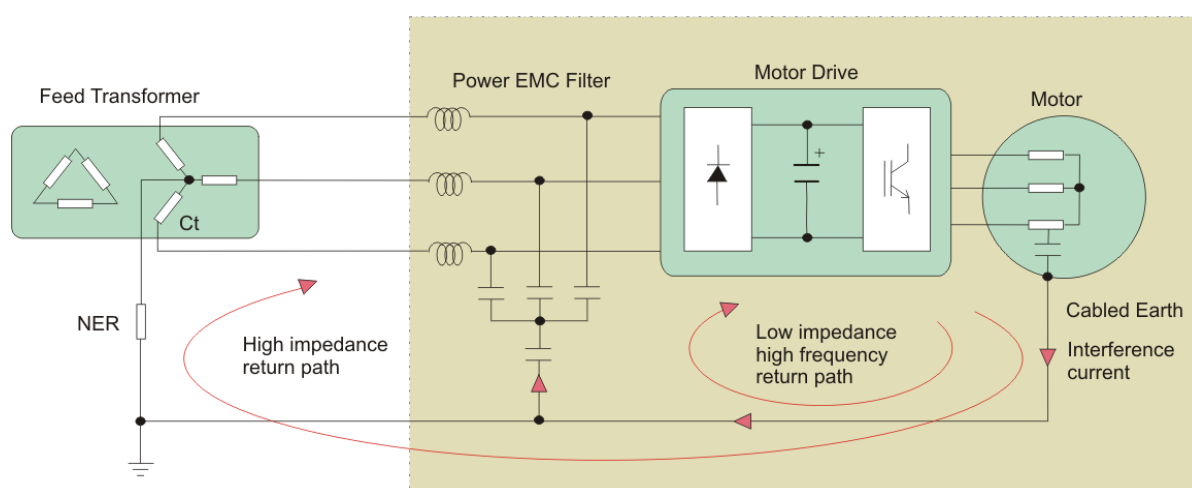

Figure 2: Alternative Earth Current Paths
- 1) VSDs introduce a new and complex voltage source into the power system. This may mean that earth faults can now be direct current (DC) in nature, or may be driven by the inverter of the drive and so have a frequency that is primarily that of the drive PWM carrier frequency (1000Hz for example).
- 2) To minimise interference with protection and control systems, many drives employ electromagnetic compatibility (EMC or EMI) filters that consist primarily of a capacitive circuit between the input of the drive and earth. This provides a path for the earth currents that represents an alternative path to the NER, as shown in Figure 2 below. In fact, it is the intention of the filter to provide this alternative path for the high frequency currents that flow (through the motor and cable stray capacitances) to earth under normal conditions. They will also provide an alternative path under fault conditions, particularly if the fault is driven by the high switching frequency drive output.